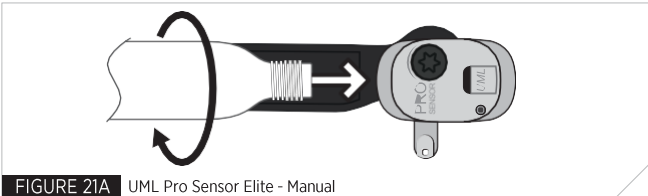

FIGURE 21A UML Pro Sensor Elite - Manual
5. Screw the cylinder into the inflation mechanism in a clockwise direction (Fig 21A). Ensure the cylinder is screwed hand tight. The status indicator will turn green when the cylinder is correctly tightened.